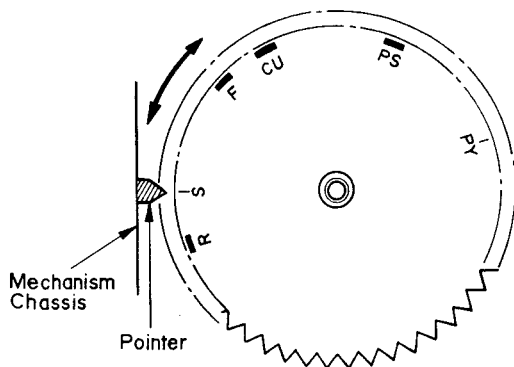

Fig. 4.1
(1) Offset Adjustment of Control Motor Driver
- (a) Refer to Figs. 4.1 and 4.2.